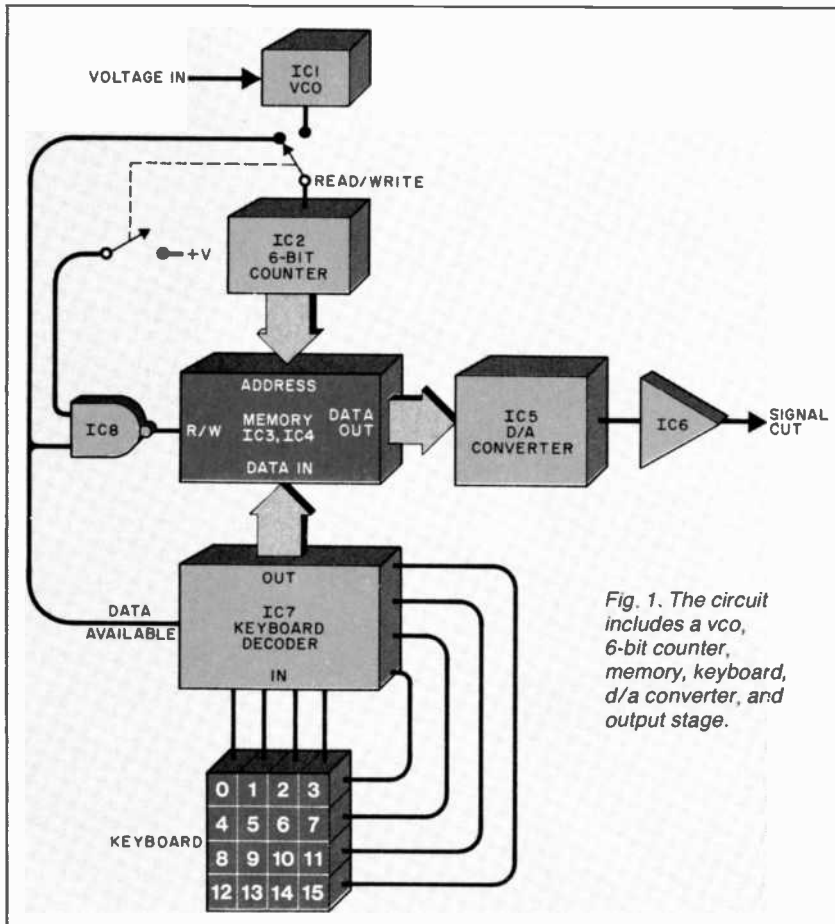

Fig. 1. The circuit includes a vco, 6-bit counter, memory, keyboard, d/a converter, and output stage.
**Circuit Operation.** As shown in the block diagram of Fig. 1 and the sche-